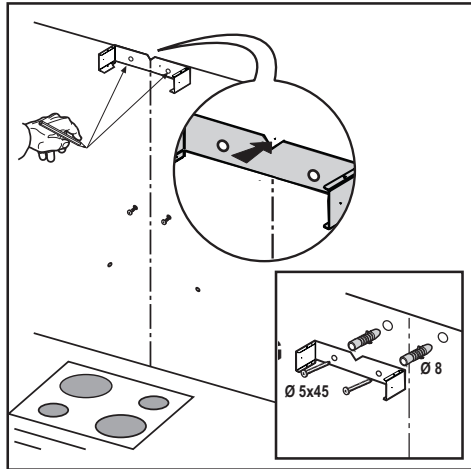

Fig. 10
- Fix the flues support bracket to the wall with 2 screws. **Fig. 10**